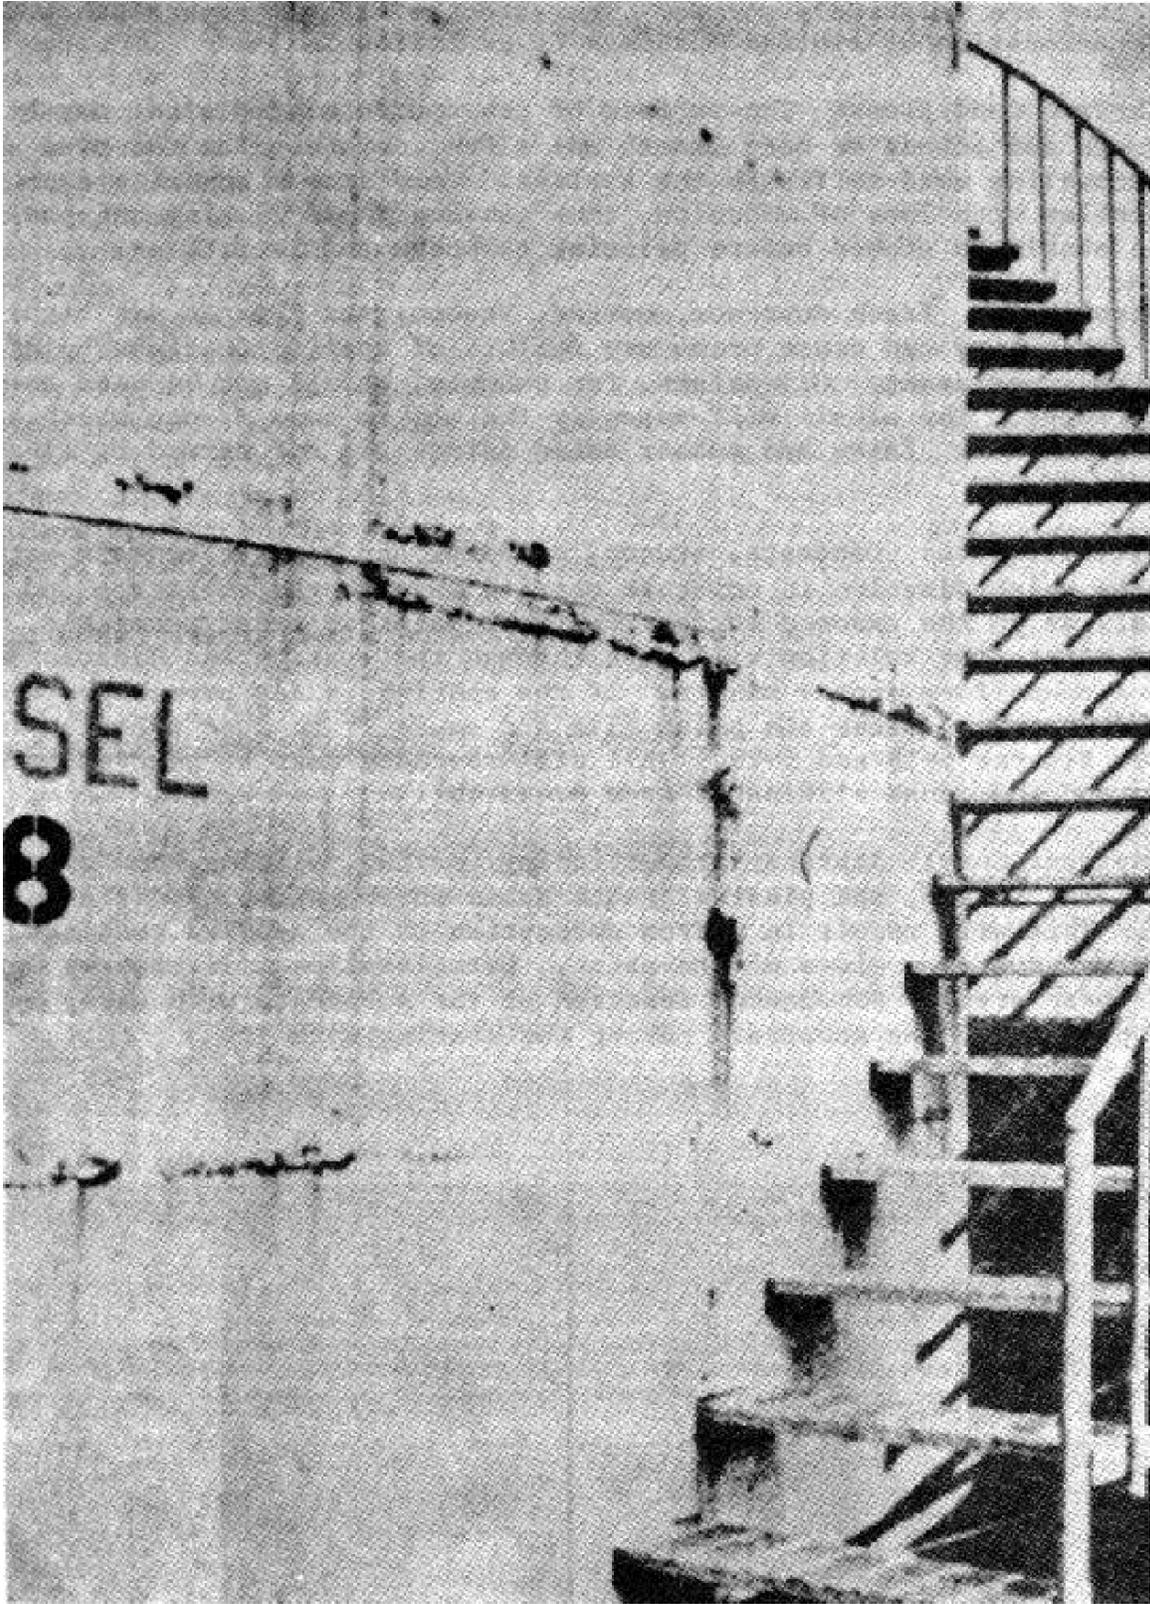

FIGURE 5-16
a. Iron and Steel: Both of these rust when exposed unprotected. If moisture penetrates through holidays, thinly coated sharp corners or breaks in the film, rust is formed. This rust will increase in area, lifting the edge of the film around the break, then creep underneath the film and continue the process. Thus, the paint deteriorates quite rapidly around each area of exposed metal. (See Figure 5-16.) Rusting is accelerated in humid atmospheres and even more so in marine atmospheres. Rusting will also spread under the paint film in areas which have been insufficiently cleaned. Such poor practice leaves rusted areas in which moisture and air can be trapped when painted. The area should be adequately cleaned depending on the coating to be applied. See Chapter 8 for minimum surface preparation for the type of paint used, Table 8-1 or appropriate primers and Appendix D-4, Tables 11 and 15, for complete paint systems.